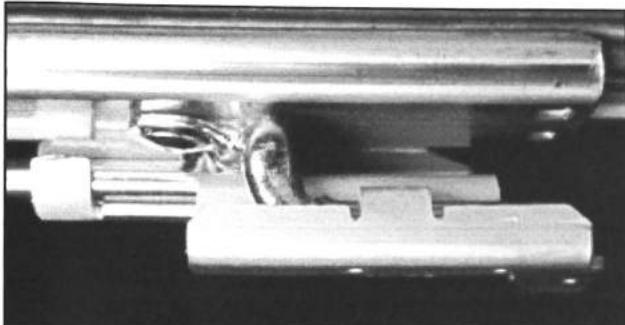

FIGURE 15
- Tabs should be bent over frame as pictured. See *Figure 15*.